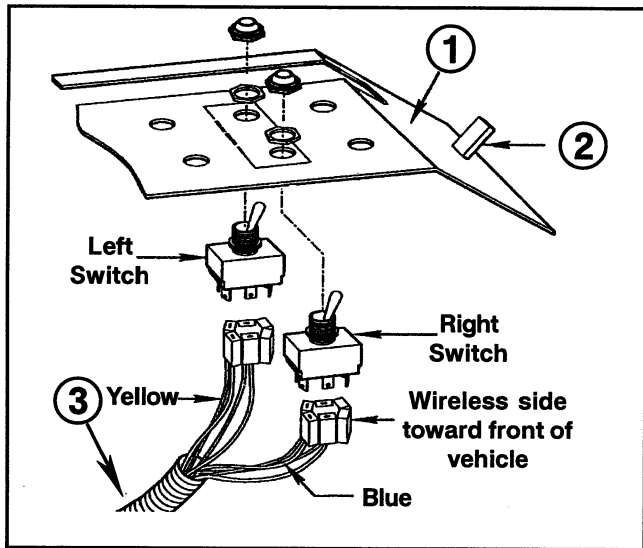

FIG. 8
1. Release the Latch and remove the Panel Assembly from the Center Console Assembly. See FIG. 8.